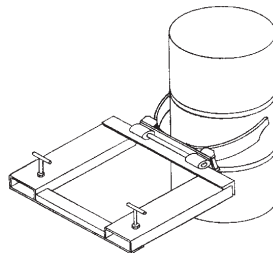

Figure 4
5. Lower forks slowly. Grip arms will rise slightly as it goes over the drum and rolling rib. Lower arms until they are between the lower and upper rolling rib. (Figure 4)